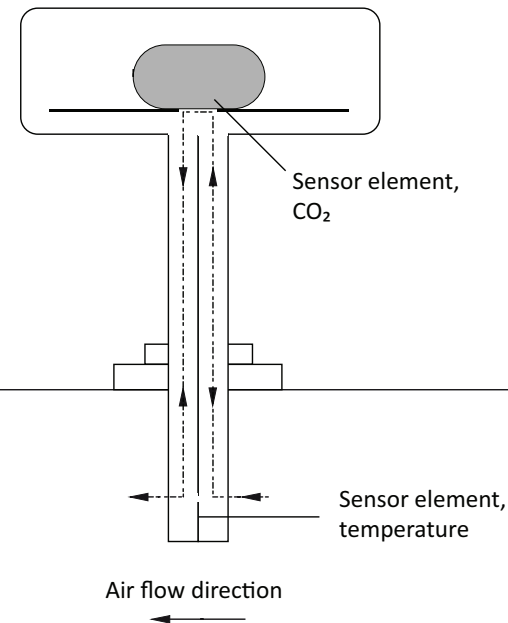

Figure 1 The airflow direction is either from right to left (as in the example) or from left to right
The air in the ventilation duct is transported to the CO₂ sensor element through one half of the probe and then back to the duct through the other half. The temperature sensor is located inside the probe. (see *Figure 1*)
2. Place the transmitter in the air flow direction of the ventilation duct according to the marks on the cover. The air flow direction is either from right to left (as in *Figure 1*) or from left to right. The hole in the duct should measure 13 mm in diameter.